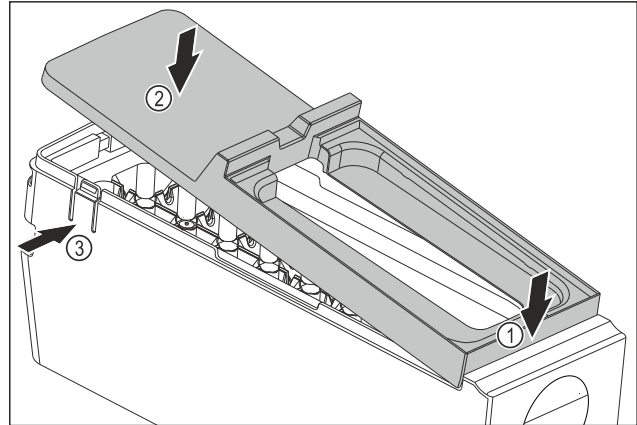

Fig. 166
- Installing the cover of the EasyTwist-Ice body: Fit the cover at the front. Fig. 166 (1)
- Lower the cover at the rear. Fig. 166 (2)
- The cover snaps audibly into place in both tabs Fig. 166 (3).